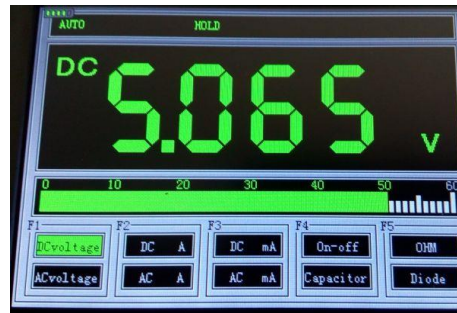

Figure 6-8 DC voltage
- ① Long press "PRW" button, then press "F5" into the multimeter interface(Or if the oscilloscope in other functional interface, long press "MENU" -> "F5")
- ② Press the "F1" button to select "DC voltage".
- ③ Connect multimeter pens and the DC voltage under test. As shown in figure 6-8